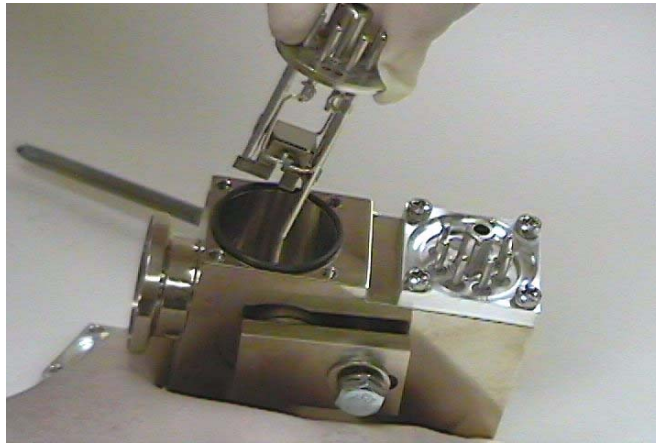

Figure 3-13 Removing the Ion Source
10. Remove the ion source from the spectrometer tube body as shown in Figure 3-13.